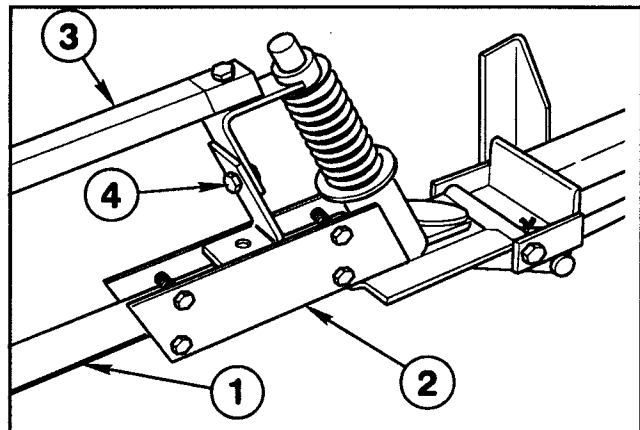

Figure 6
13. Insert the plugged end of an Extension Boom Pipe into the Pivot Assembly and secure with four (4) 1/4" x 1-1/4" cap screws and lock nuts. (See FIG. 6) Repeat on the opposite side to assemble the other Extension Boom.
14. Attach the Boom Support Assembly to the Pivot Assembly, using a 5/16" x 1-1/2" cap screw and lock nut. (See FIG. 6.)